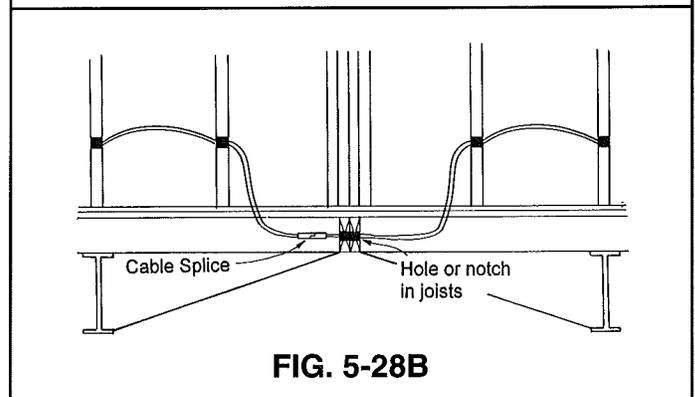

FIG. 5-28B
1. Remove bottom board access covers (See Fig. 5-28B).